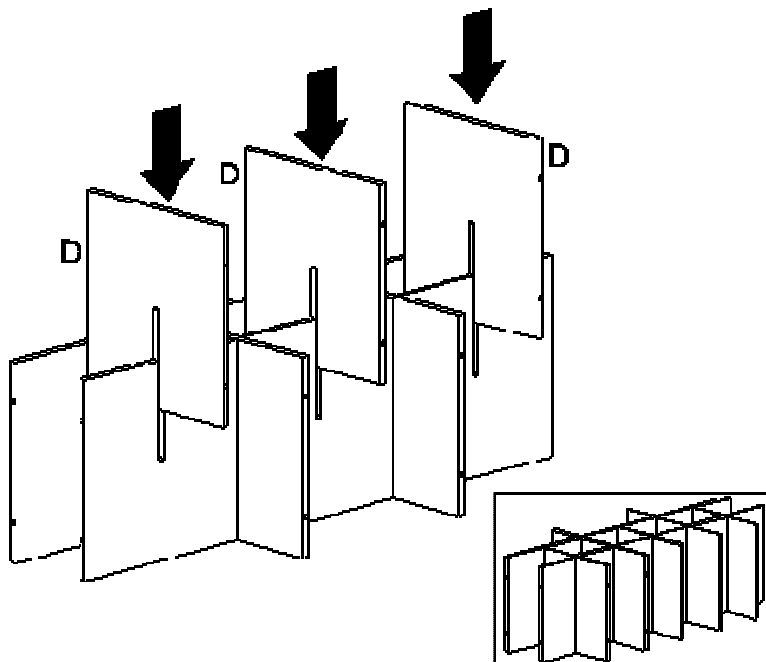

Figure 2
Attach the Small Divider Panels(D) to the Shelf Panels(A,B) as shown in Figure 2.